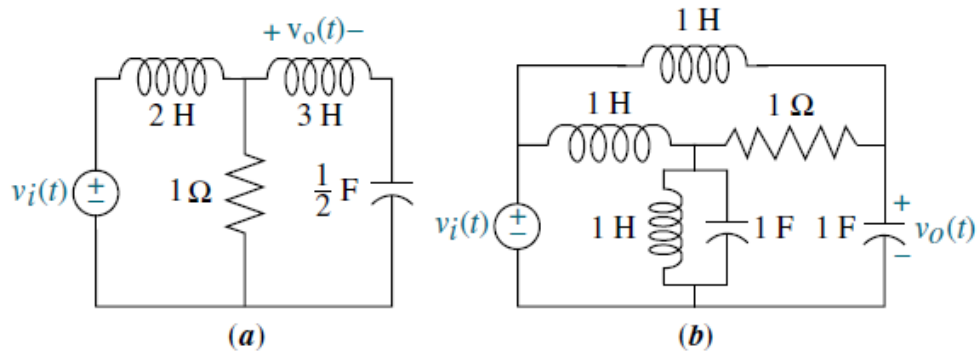

FIGURE P2.5
18. Find the transfer function, $G(s) = V_o(s)/V_i(s)$, for each network shown in Figure P2.5. Solve the problem using mesh analysis. [Section: 2.4]